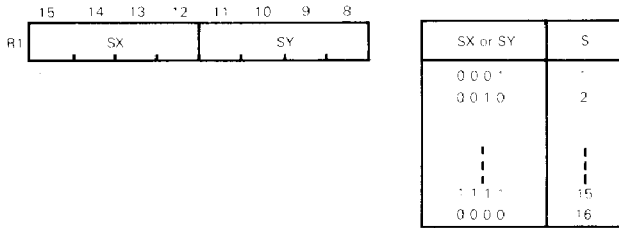

FIGURE 2.7. - SCALING FACTOR
2.4.7. Scaling factor and cell mapping: (See figure 2.7 et 2.8).